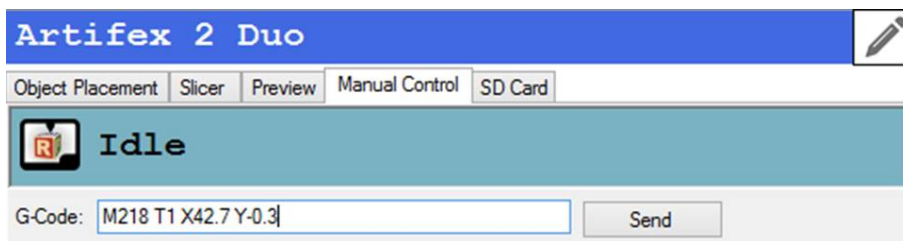

Figure 6.11: Adjusting extruder offsets
- Then, in Repetier-Host, go to the “Manual Control” page, enter the G-code command “M218 T1 X42.7 Y-0.3”, and click “Send” (Figure 6.11). This G-code command will modify the offsets of Extruder 2 to  $X = 42.7mm$  and  $Y = -0.3mm$  based on the above calibration results. After this change, you can reprint the calibration model to verify the new offset settings. Under the new settings, the green and blue lines should align to each other at the 0 position on both X-axis and Y-axis directions.